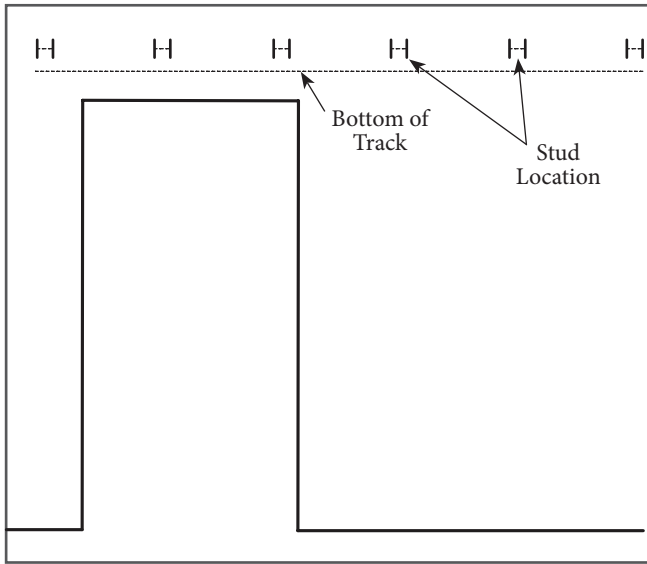

Figure 2
3. Using a stud finder, locate the studs along the area the brackets will be installed (Figure 2).